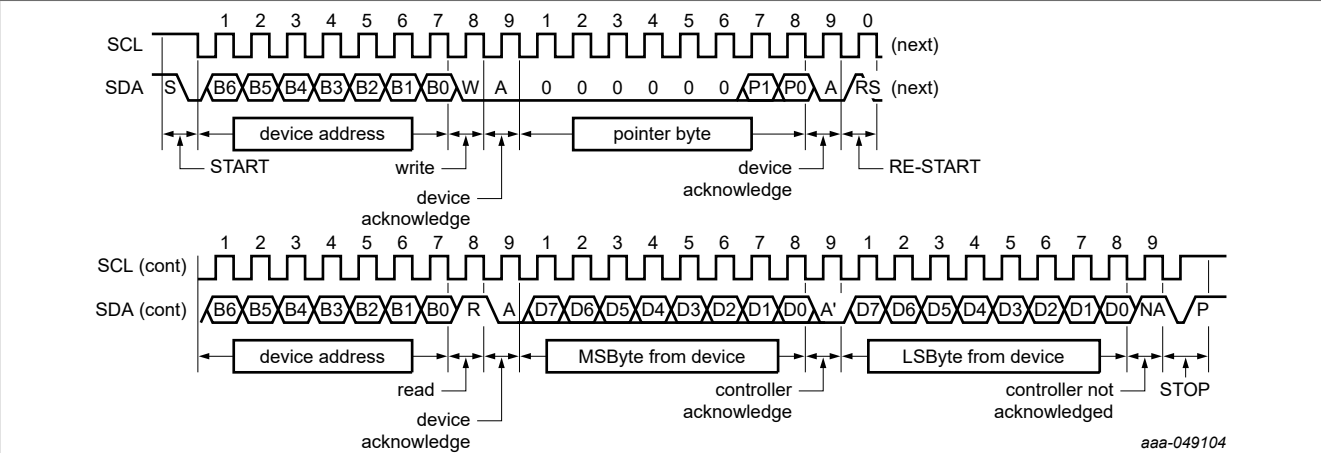

Figure 19. Read register including pointer byte (2-byte data)
- 14. For best temperature accuracy, both temperature bytes must be read as shown in Figure 19 and Figure 20. But for a quick less accurate check/reduce bus transmission, only one byte, the MSByte, must be read as shown in Figure 20.